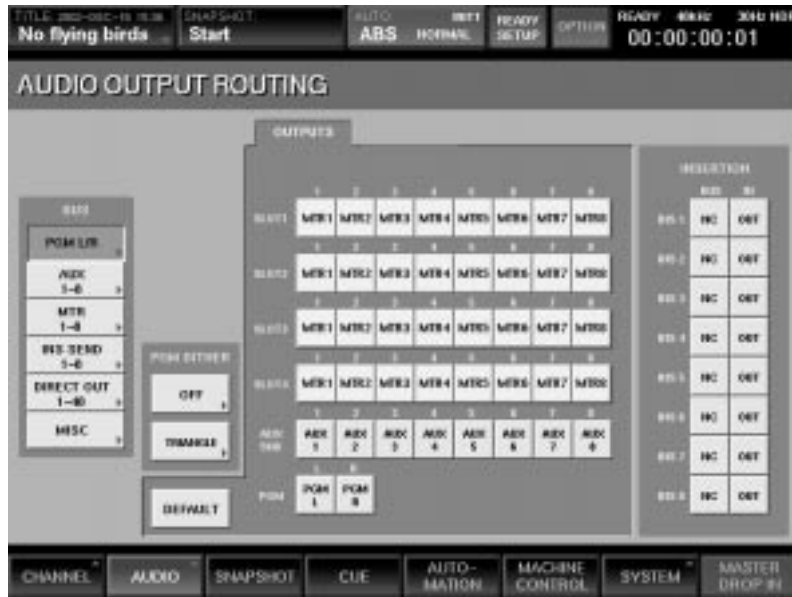

Figure 18
- 1 Press the AUDIO tab at the bottom of the touchscreen, then select OUTPUT ROUTING. The Audio Output Routing Window appears. (See Figure 18)